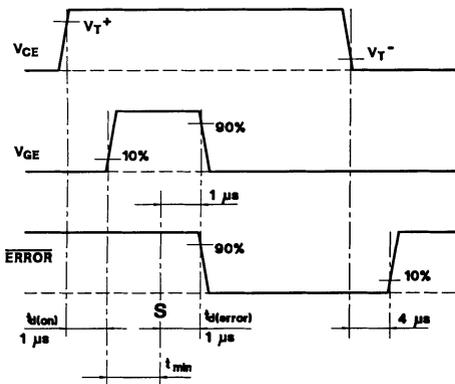

Fig. 7 Function of the short-circuit protection.
In Fig. 7 the  $V_{CE}$  monitoring is activated immediately after turn-on.  $t_{min}$  is the delay time according to equation (2). The value  $t_{min} = 1,75 \mu s$  is set using  $R_{CE} = 24 k\Omega$  and  $C_{CE} = 330 pF$ . The signal waveforms in Fig. 7 from the instant S of activation of the  $V_{CE}$  monitoring on are also valid in case that the short circuit at the power switch happens some time after turn-on (S = instant of the short circuit = instant of activation of the  $V_{CE}$  monitoring  $V_{CE} > V_{CEref}$ ).